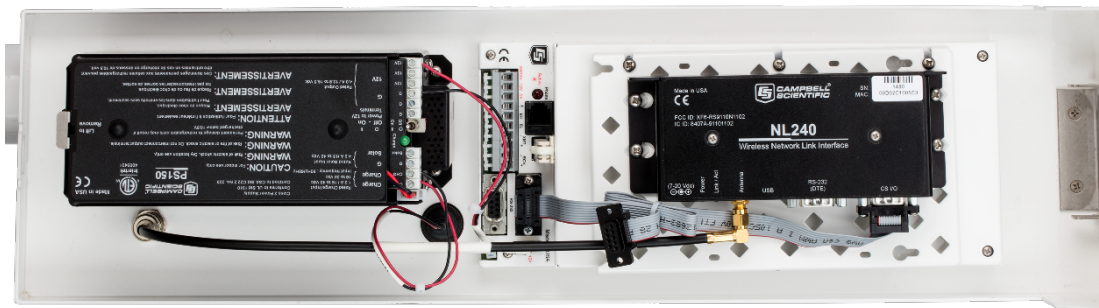

FIGURE 6-39. Wi-Fi modem mounted inside the ET107
3. Attach the other end of the cable to the BNC RF bulkhead connector in the lower right corner of the enclosure. Make sure all connections are tight (FIGURE 6-39 (p. 56)).
4. Use the ribbon cable to connect the **CS I/O** port on the NL241 to the **CS I/O** 9-pin port on the ET107 (FIGURE 6-39 (p. 56)).